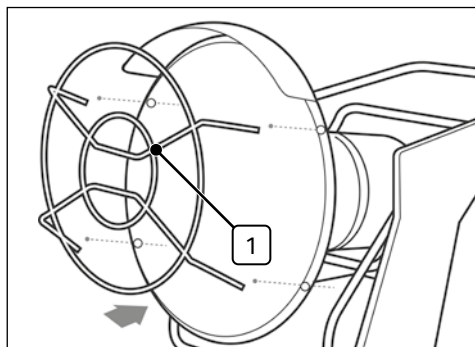

Fig. 2
6.2 Fitting the Safety Guard (Fig.2)